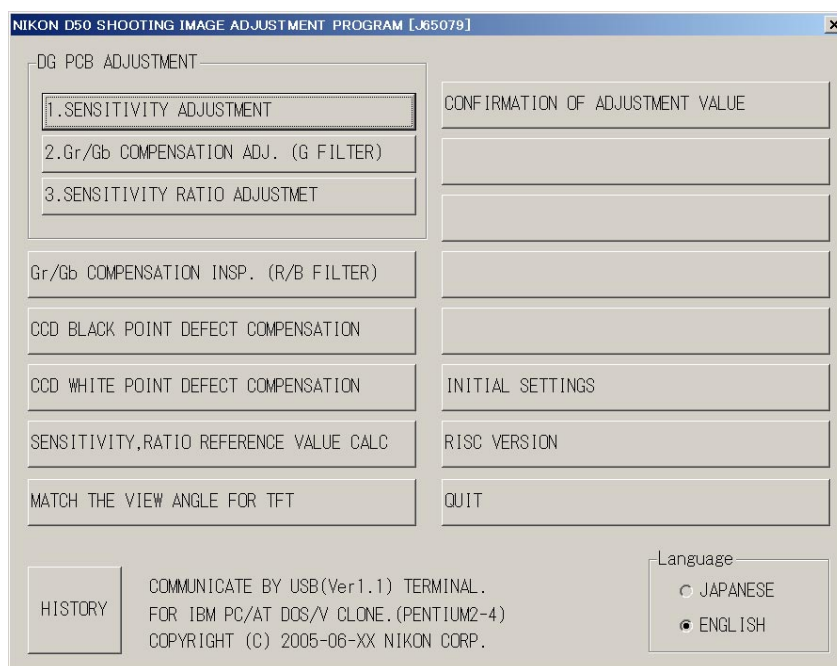

Fig.1
- (1) Perform the D50IMG.exe to start up the main screen. (ref. Fig.1)